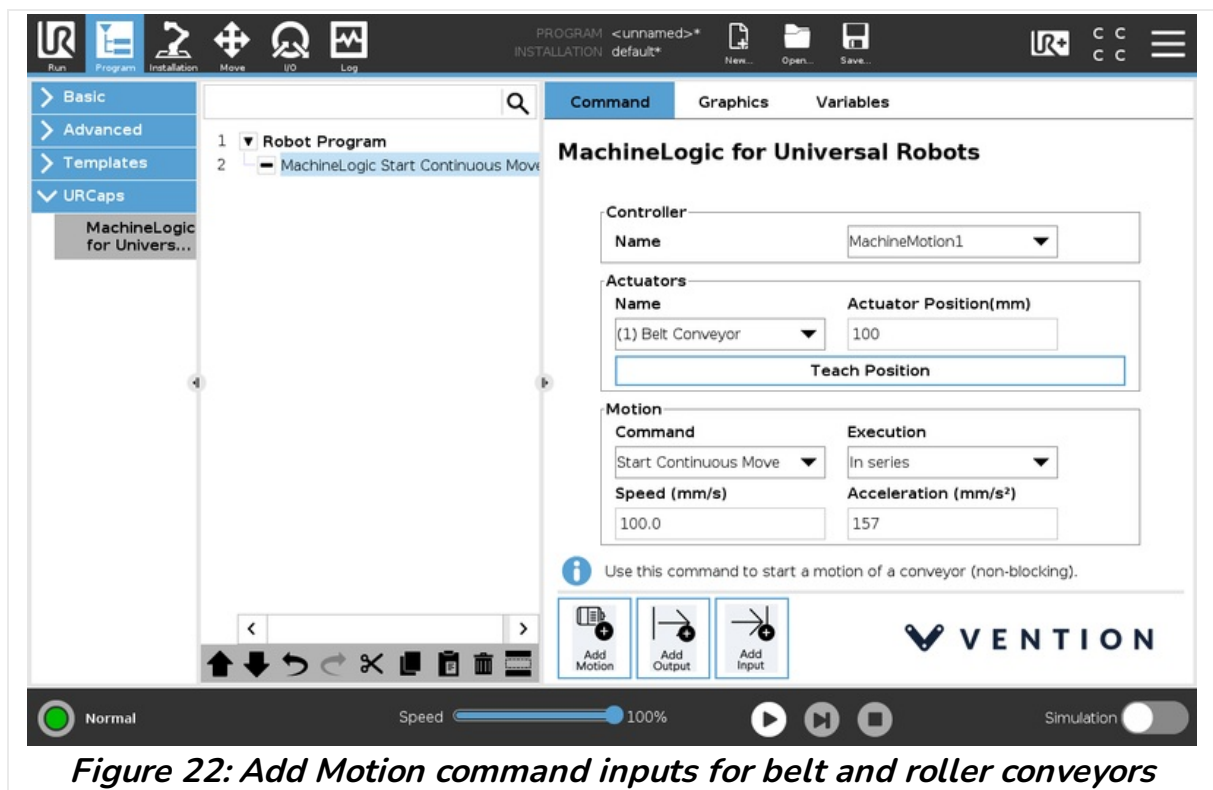

Figure 22: Add Motion command inputs for belt and roller conveyors
1. Set up your motion command with the actuator name, motion command type, execution, speed and acceleration values (see Figure 22).